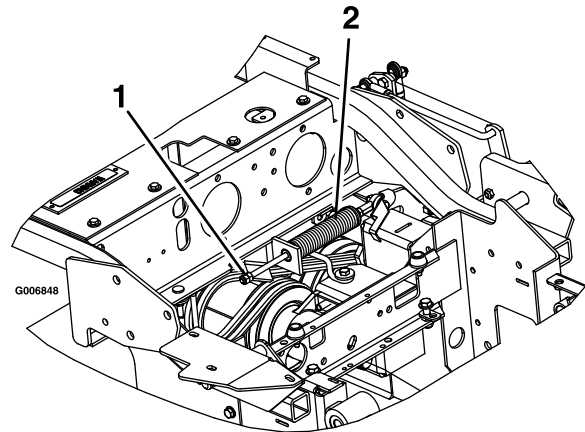

Figure 56
3. Locate the brake spring and thread the 2 jam nuts out to the end of the brake-spring rod (Figure 56).